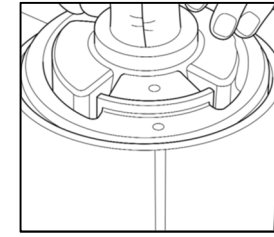

Fig. 17
2. Insert replacement pivot bush inside funnel "D" and align the pips on the pivot bush to the marked line on the funnel (Fig. 17)